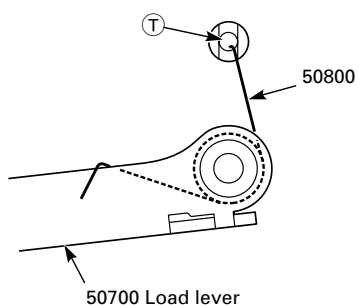

Fig. 8.30
- Insert one end of the load lever spring (50800) into hole (T) of the mechanism chassis and hook the other end to the load lever (50700) as shown in Fig. 8.30.